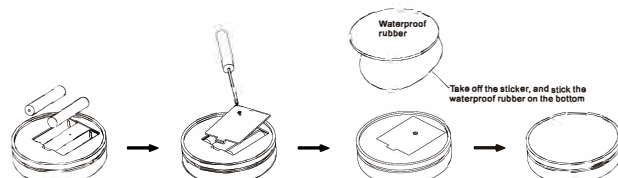

Figure 7
- Install the battery of wireless control foot switch, or insert the plug of the cord foot switch to the main unit.(Figure 7, Figure 3)